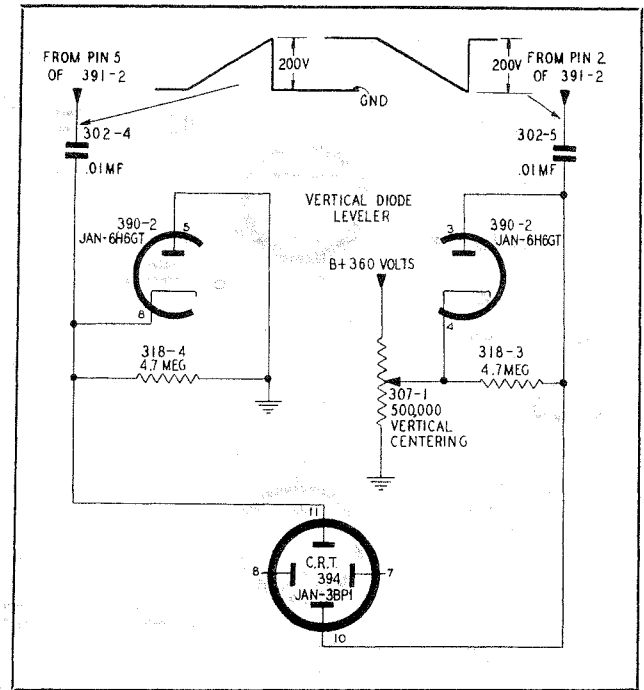

Figure 4-15. Vertical-Deflection Diode Leveler, Sectional Diagram
(See figure 4-15.)
a. Twin diode tube JAN-6H6GT/G (390-2) is connected across the output of the sweep amplifier and inverter. (See fig. 4-15.) The plate of the right-hand section of the diode is connected to the output of the sweep amplifier, and the cathode of the left-hand diode is connected to the output of the sweep inverter. Thus, when the amplified sweep voltage is falling in a negative direction, the right diode does not conduct and the lower vertical-deflection plate is driven negative at the same moment the output of the inverter section is driving the upper vertical plate positive.
c. In figure 4-15, note that the desired deflection caused by a sawtooth pulse is obtained when the upper deflection plate goes positive and the lower deflec-